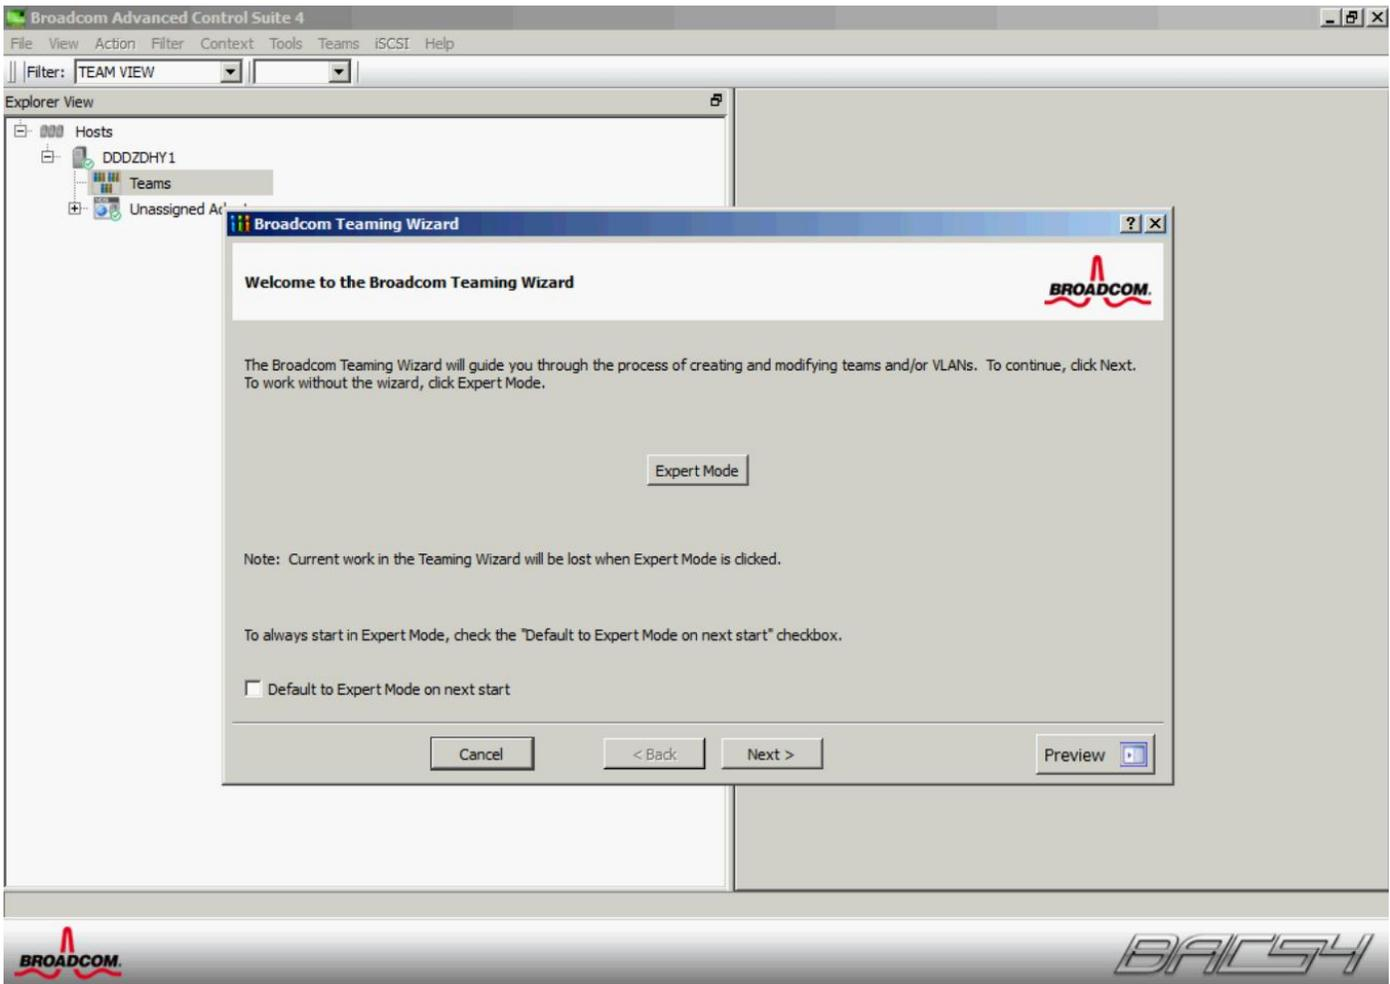

Figure 13 Creating a NIC team with Broadcom 57810 CNA
7. Right click **Teams** and select **Create Team**. The Broadcom Teaming Wizard (Figure 13) will start.